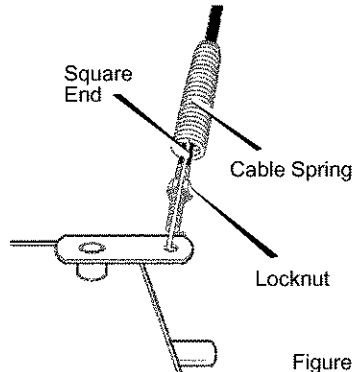

Figure 44
3. Push cable through spring to expose the threaded portion of the cable (see Figure 44).